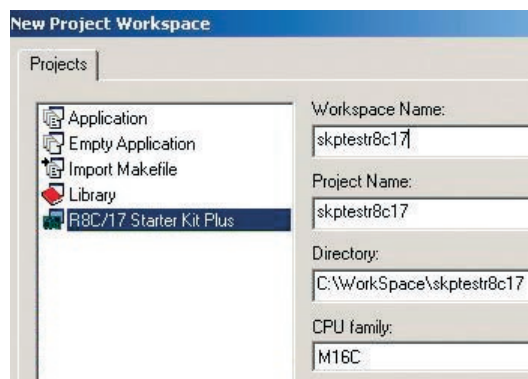

Figure 2. New Project Workspace in HEW
- ii) Select “R8C/17 StarterKit Plus” (Figure 2).